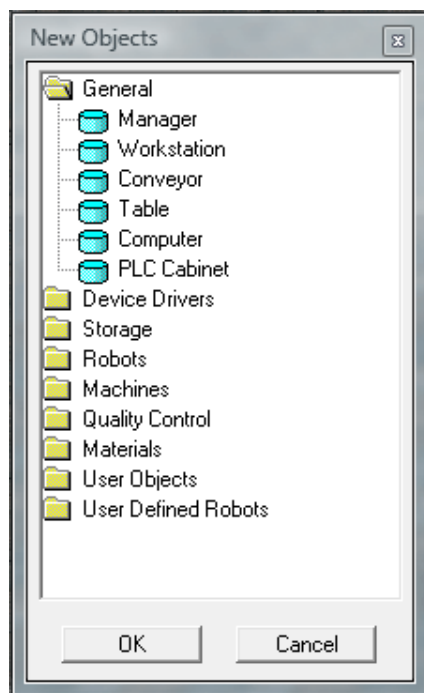

Figure 8-10: New Objects Dialog Box
1. Select **Edit | New Object**. The **New Objects** dialog box is displayed as shown in Figure 8-10: New Objects Dialog Box.
1. Select **Edit | New Object**. The **New Objects** dialog box is displayed as shown in Figure 8-10: New Objects Dialog Box
1. Select **Edit | New Object** The New Objects dialog box is displayed, as shown in Figure 8-10: New Objects Dialog Box.